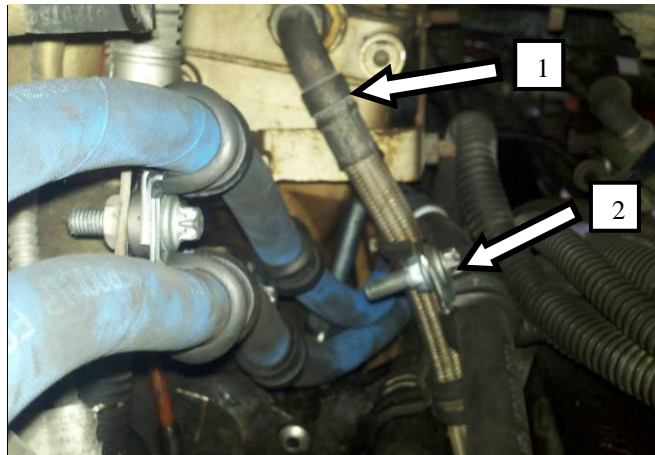

Figure 10 Air Compressor Discharge Line and Power Steering Pressure Line Routing
Note: Discharge line should be routed inside of power steering lines. See Figure 10.
64. Separate the air compressor discharge line (1) from the power steering pressure and suction lines using existing P-clamps (2) and P-clamps from the kit part number 23-11357-02. See Figure 10.